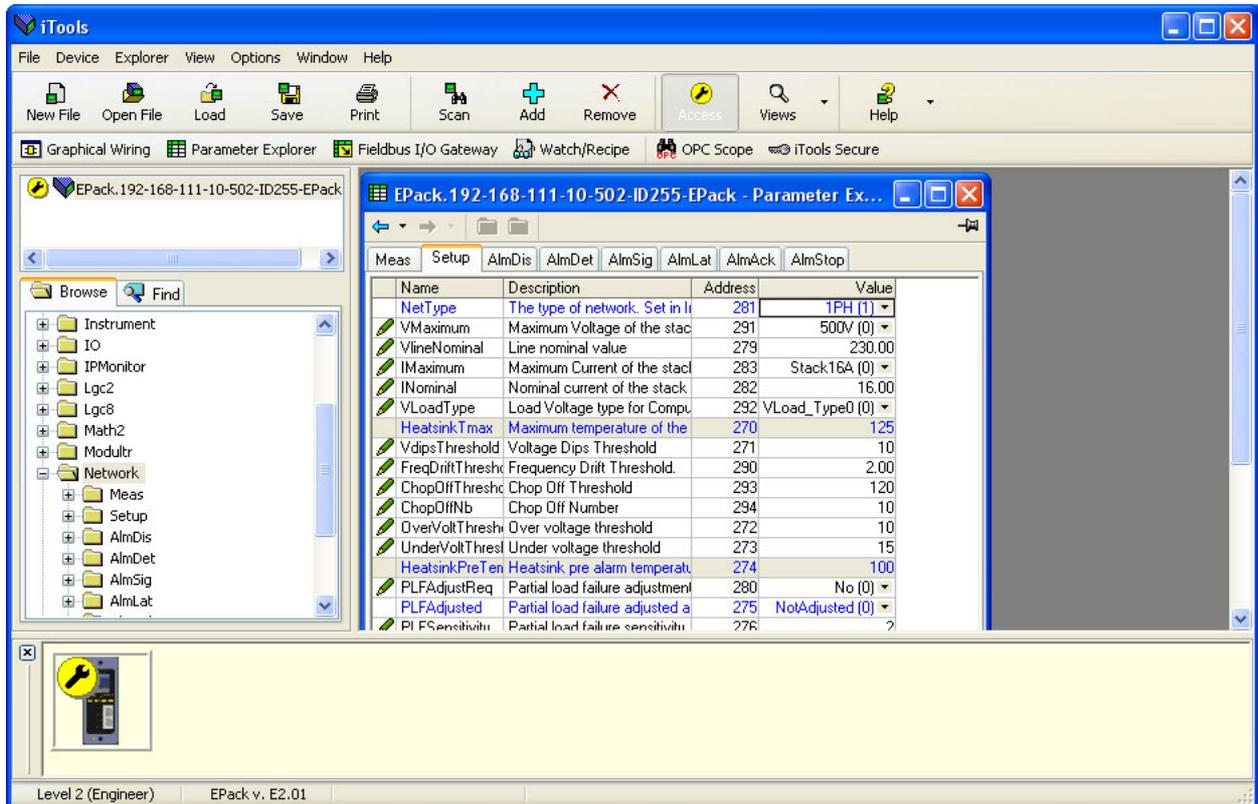
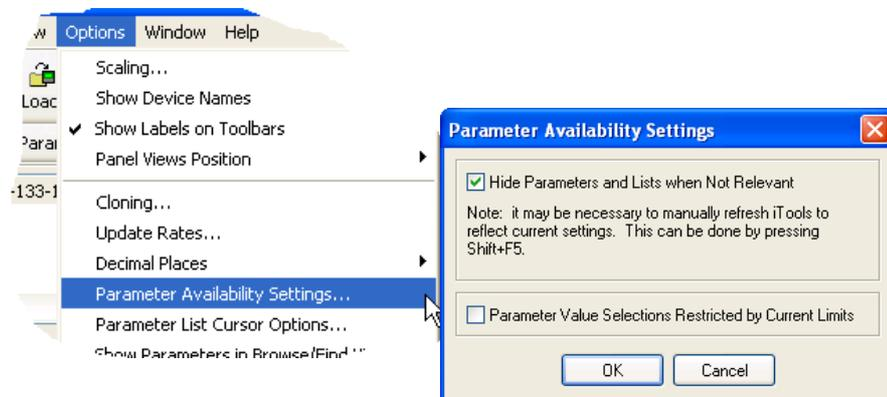

Figure 142 Parameter table example
Figure 145 Show/Hide parameters
In each case the function block parameters appear in the iTools window in tabular form, such as the example in Figure 142.
- Parameters in blue are non-editable (Read only). In the example above all the parameters are read only. Read/write parameters are in black and have a 'pencil' symbol in the 'read/Write access column at the left edge of the table. A number of such items are shown in Figure 142, above.
- Columns. The default explorer window (Figure 142) contains the columns 'Name', 'Description', 'Address' and 'Value'. As can be seen from Figure 145, above, the columns to be displayed can be selected, to a certain extent, using either the 'Explorer' menu or the context menu. 'Limits' have been enabled for the example above.
- Hidden Parameters. By default, iTools hides parameters which are considered irrelevant in the current context. Such hidden parameters can be shown in the table using the 'Parameter availability' settings item of the options menu (Figure 145). Such items are displayed with a shaded background.